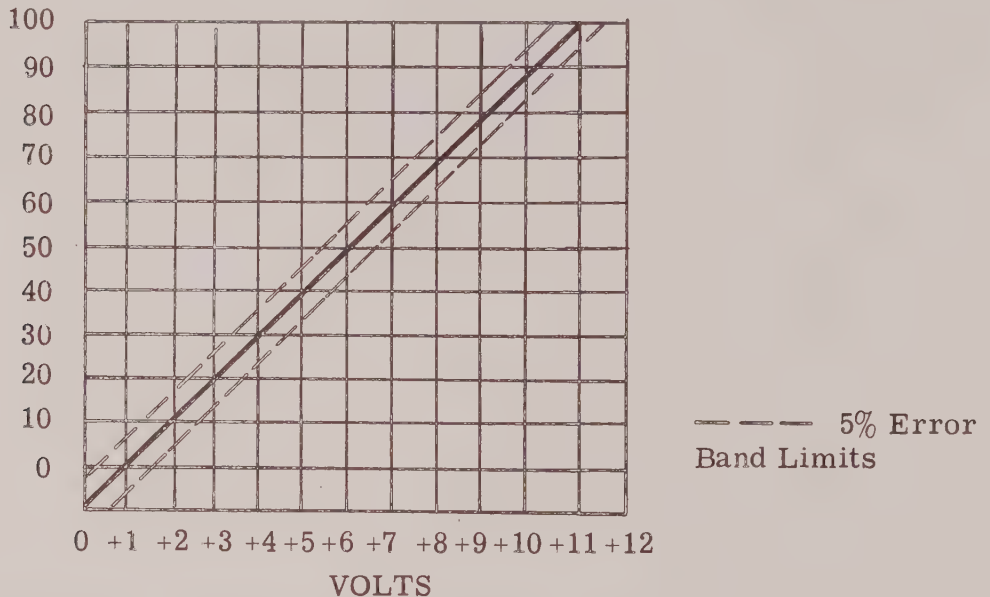

Figure 1. CALIBRATION OF SEARCH OSCILLATOR
2. For front panel operation by calibrated dial, place the search oscillator switch on the rear panel to INT (internal) operation. For external voltage operation, place the switch on the rear panel to EXT (external) control and connect the control voltage to the BNC on the rear panel labeled 0 to + 12 v. The calibration curve of the search oscillator Figure 1 shows one division of frequency corresponds to 1 v, i. e., for search oscillator searching 10 kc decade the relationship is 10 kc/volt. The search oscillator will accept sweep rates up to 1 kc.